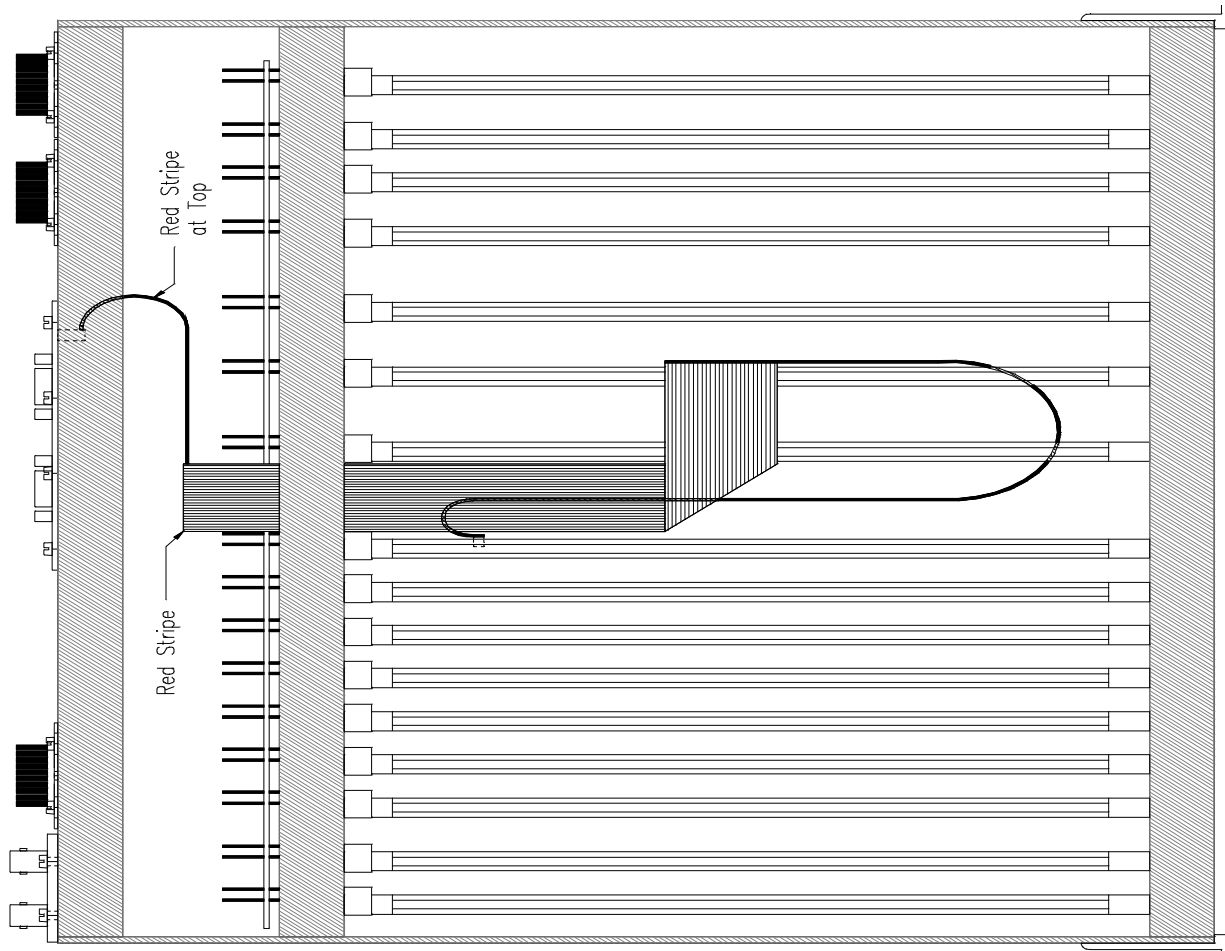

Figure 4 - 19003 Cable Routing (Top View)
- Route cable (19003) as shown in Figure 4. Starting at **P13** of the SRCP2, this cable goes outside the top of the Servo Rack and re-enters the rack just to the right of the Servo Control 2 (100828) slot. This routing is to ensure that the Supervisor board in the Framing board (100829) slot can be withdrawn from the Servo Rack without disconnecting or entangling its associated cables.